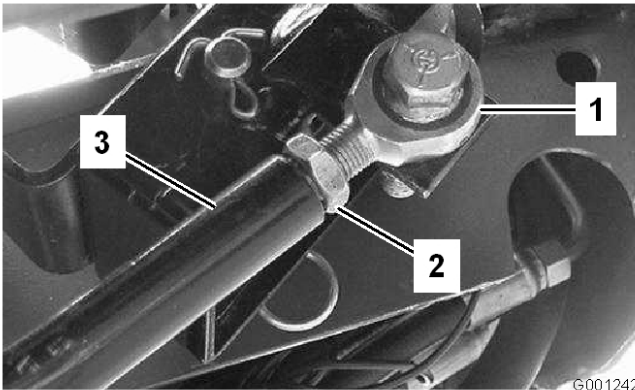

Figure 63
3. If more adjustment is required, adjust traction rod (Figure 63) as follows: